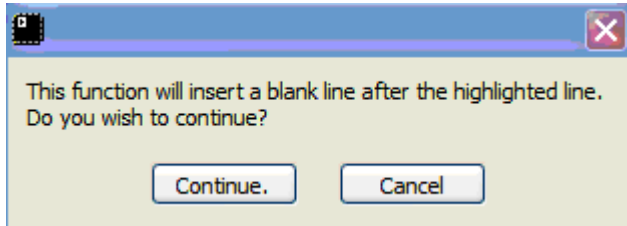

Figure 55. Insert state dialog box
**Insert a State** - Once clicked, a dialog box appears as shown in *figure 55* informing the user that a blank state will be inserted after the highlighted state.